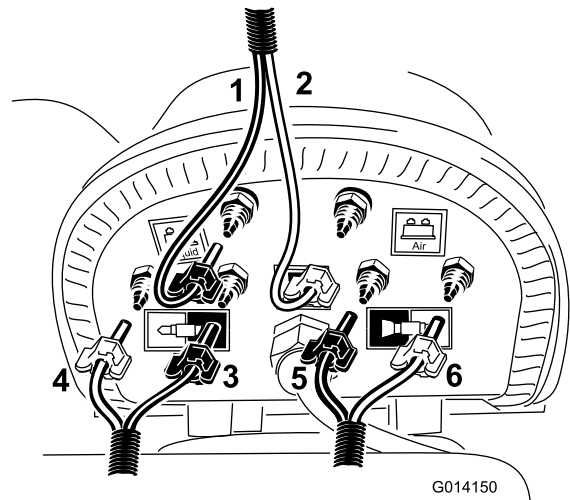

Figure 15
2. Install the blue and clear tubes to the corresponding upper barbs on the compressor (Figure 15).
4. Locate the foam hose routed to the left boom, and install the blue and white tubes to the locations as shown in Figure 15.
5. Locate the foam hose routed to the right boom, and install the blue and white tubes to the locations as shown in Figure 15.